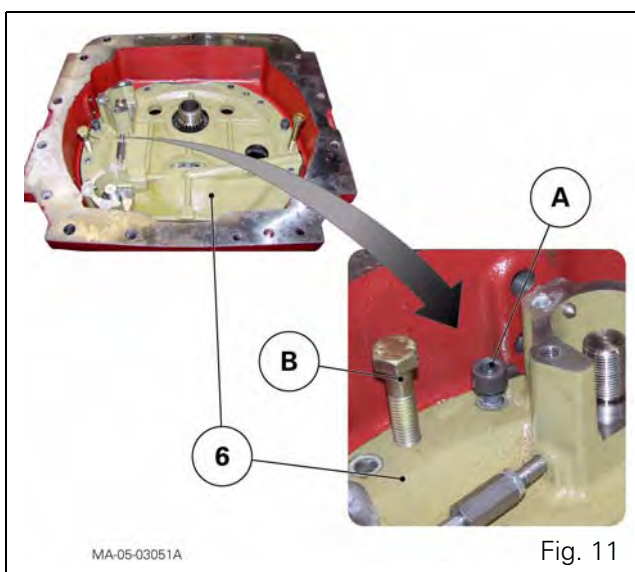
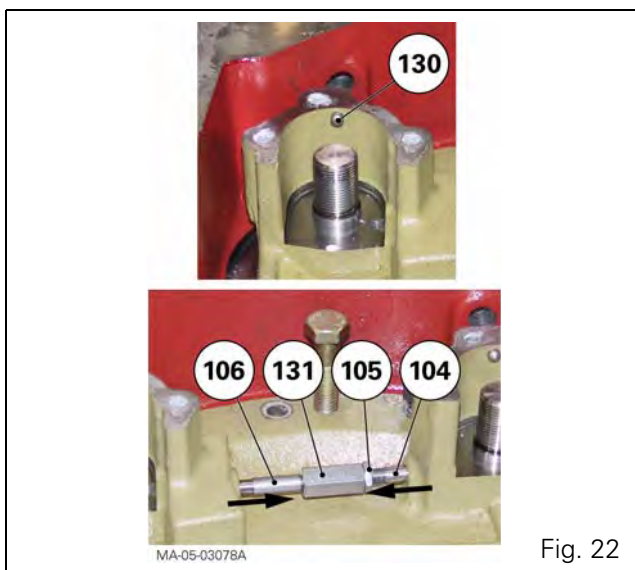

Fig. 11
Fig. 22
12. Remove the screws (A) from the cover (6) (Fig. 11).
13. Fit two screws (B) (Fig. 11) in the threaded holes in order to lift up the cover (6).
14. Remove the cover (6).
15. Recover the bearing cups (3), (8) and (114) and the shims (4), (7) and (113).
46. Check the interlock mechanism is in position and retighten the rods (104) and (106) to their maximum tightness (Fig. 22).
47. Fit the four switch thrust pins (130) using a bit of grease to hold them in position (Fig. 22).
48. In the cover (6), fit the bearing cones (3), (8) and (114) smeared with grease to hold them in position. Also fit:
49. Put the cover back on (6).
50. Fit the cover (6) screws (A) (Fig. 11) smeared with Loctite 242. Tighten to a torque of 57–77 Nm.